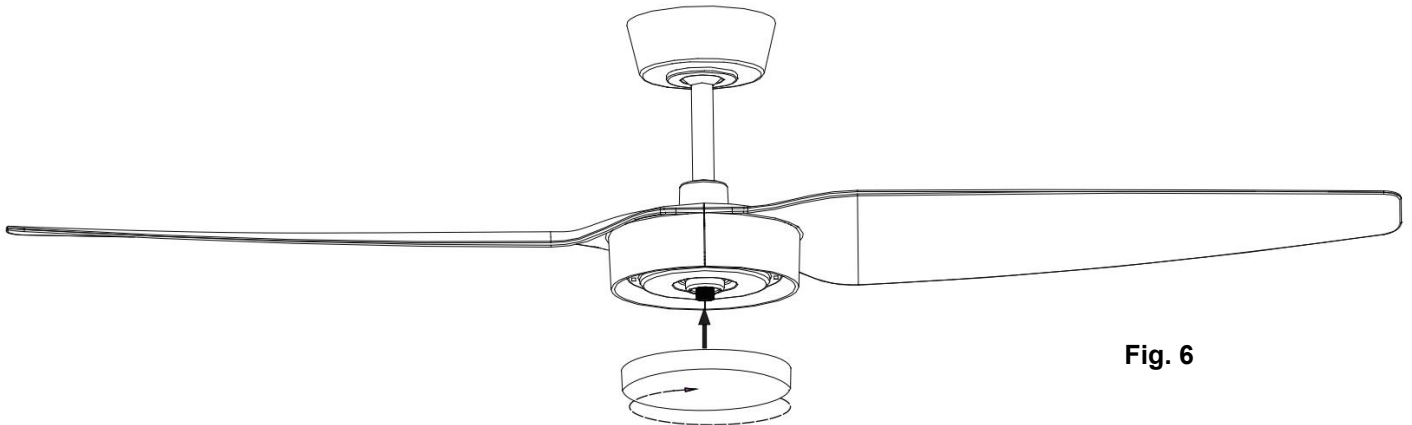

Fig. 6
**INSTALLATION OF BOTTOM COVER (Fig. 6)**